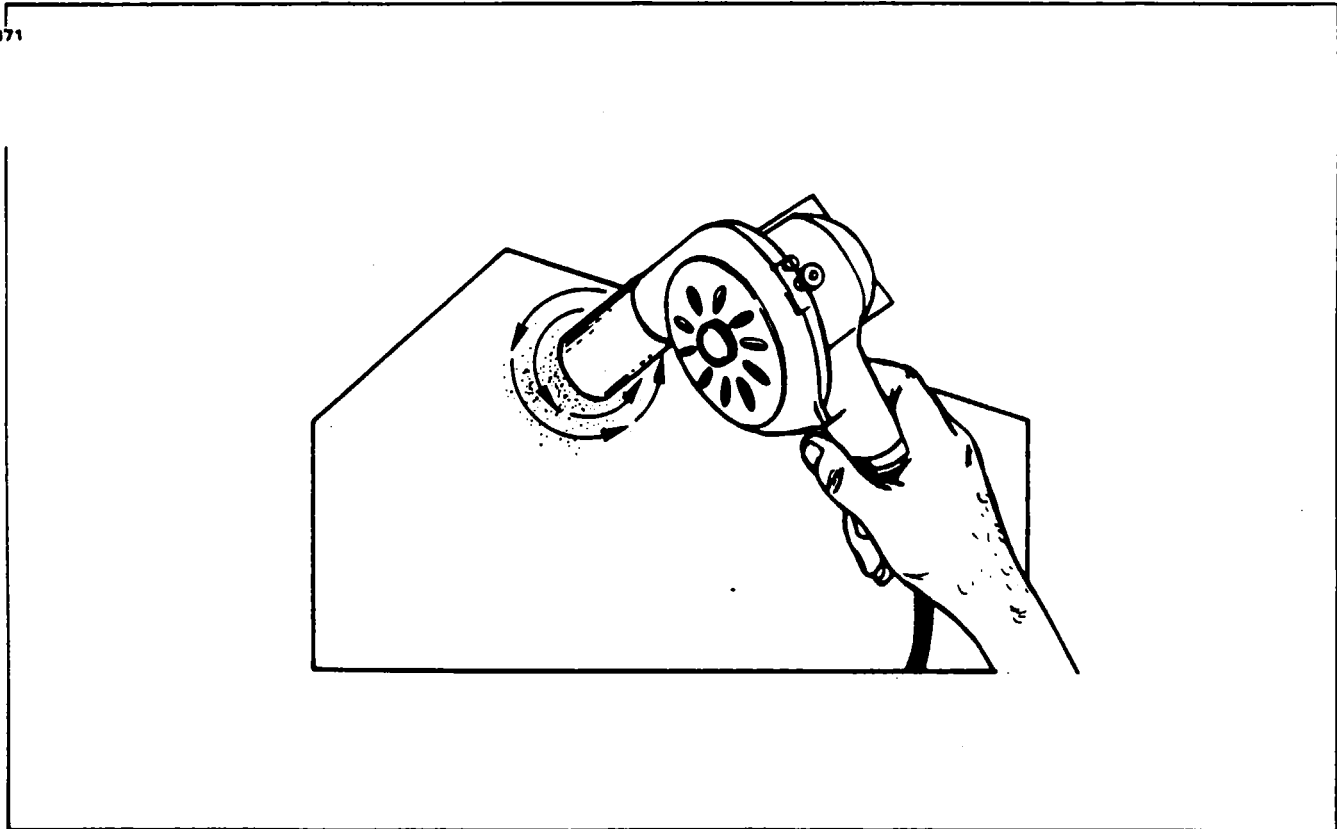

Figure 51-2. Surface Scratches, Abrasions or Ground-in-Dirt
2. Surface Scratches, Abrasion or Ground-in-Dirt: (Refer to Figure 51-2.)